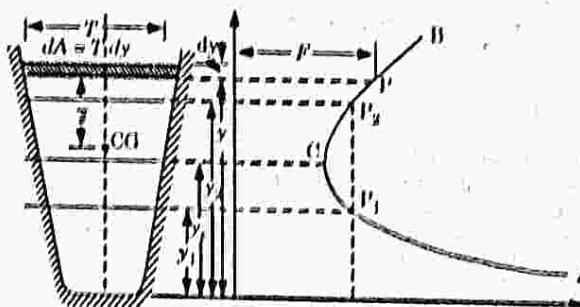

Fig. 1.9.1. Specific-force curve.
3. Since Q is constant and both A and \bar{z} are the functions of y . As shown in Fig. 1.9.1 for a change dy in the depth, the corresponding change $d(\Lambda \bar{z})$ in the moment of the cross-sectional area about the free surface may be expressed as, $\frac{d(\Lambda \bar{z})}{dy} = (A(\bar{z} + dy) + Tiy) \frac{dy}{2} = \Lambda \bar{z}$